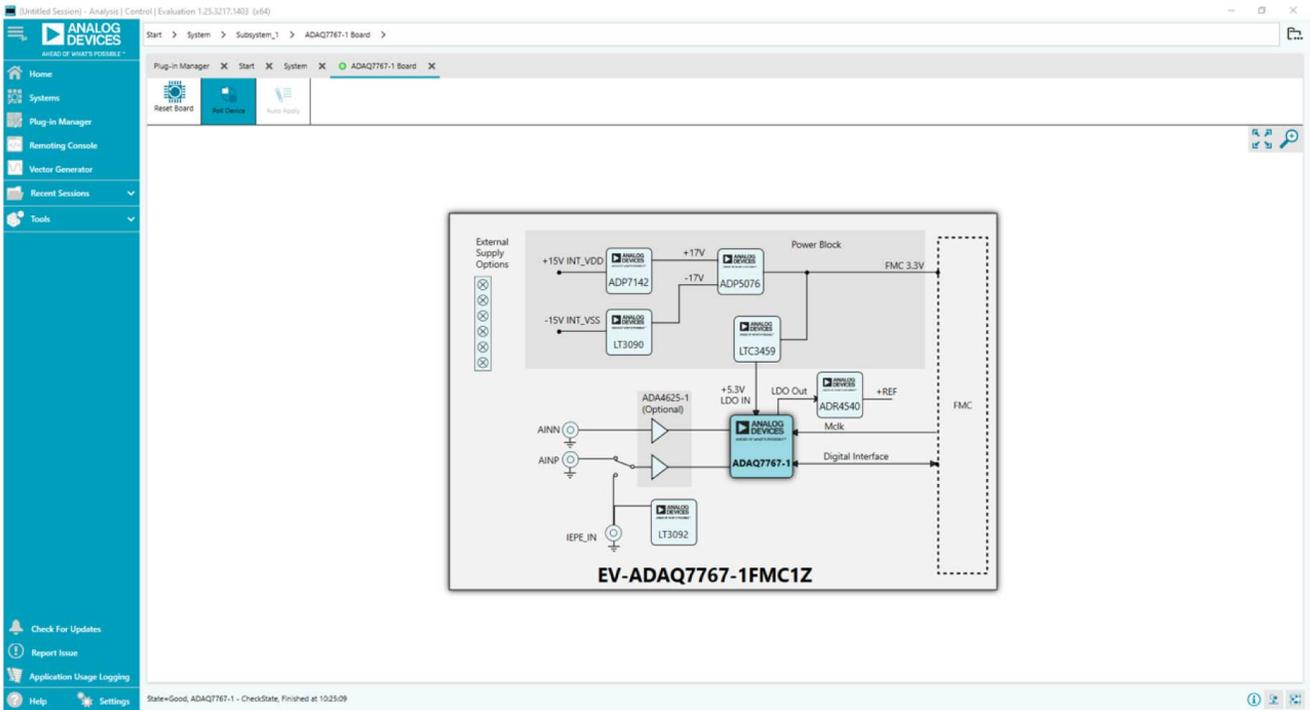

Figure 18. ADAQ7767-1 Board View
4. Double-click the **ADAQ7767-1 Board** icon to open the **ADAQ7767-1 Board View** (see Figure 18).